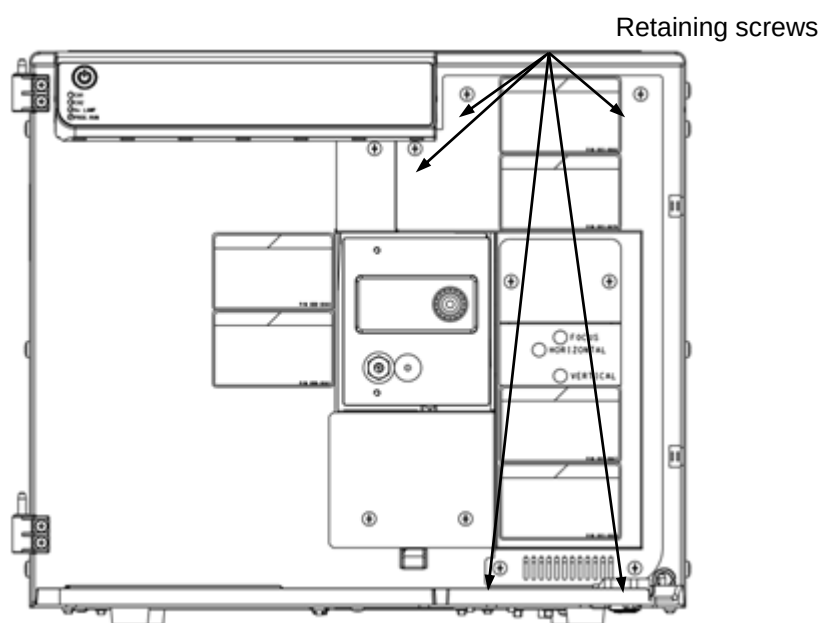

Fig.8-1 Removing the cover of the light source
- ① Turn OFF the power switch and unplug the power cord.
- ② Loosen Four retaining screws of the light source cover, and detach the cover (Figure 8-1).